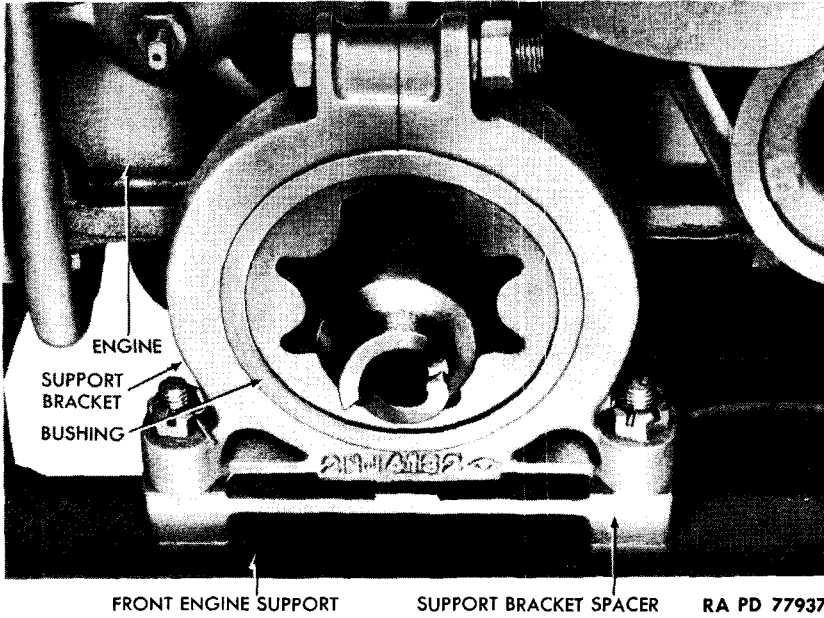

Figure 23 — Front Engine Support Bracket
vv. Disconnect Engine Support Bolts (figs. 23 and 16). Remove the cotter pin, nut, three flat washers, and bolt which secure front engine support bracket to front engine support on each side. Remove the two cotter pins, nuts, six flat washers, two support blocks, and two bolts which secure engine to rear engine support extensions on each side.
c. Install Engine Support Bolts (figs. 23 and 16). Install the 2 bolts, 6 flat washers, 2 nuts, and 2 cotter pins which secure engine support bracket to front engine support. Install the 4 bolts, 12 flat washers, 4 nuts, and 4 cotter pins which secure engine to rear support extensions.